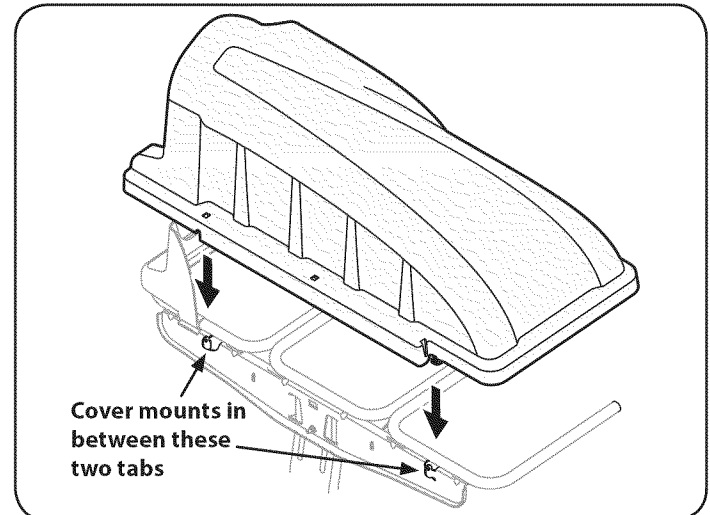

Figure 10
5. Install the bagger cover onto the bag support assembly, as shown in Figure 10. The plastic cover goes inside of the two mounting tabs.